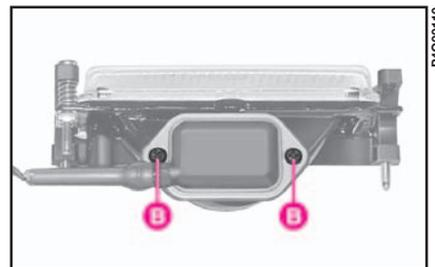

fig. 23
2) loosen the two screws **B**-fig. 23 and take out the rubber cover;